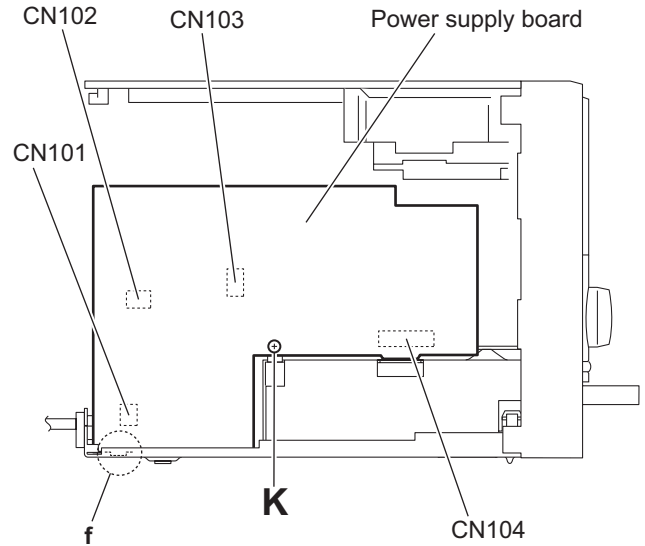

Fig.16
3.1.9 Removing the power supply board (See Fig.16)